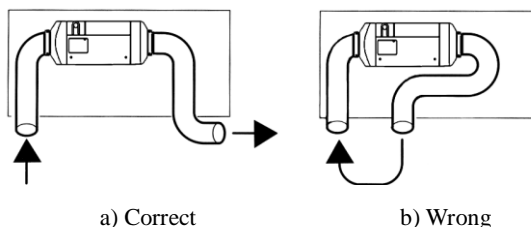

Fig. 12
4.3.6 For heater working in internal circulation, measures shall be taken to avoid re-entering of the supplied hot air into the air inlet port (as shown in Fig. 12). If no air inlet pipe is attached in this mode, an air inlet hood with grids (Fig. 4-6) must be installed at the air inlet port of the main heater. The inlet air shall be drawn from the cold area of the compartment, such as under the seats or berths.